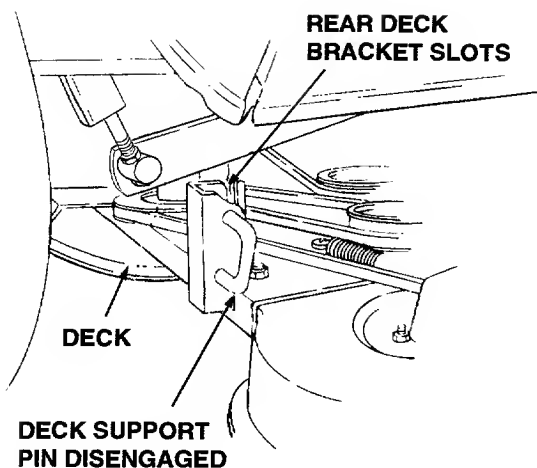

Figure 54
6. If not already done, pull the deck support pins outward, turn downward and release so both spring-loaded pins are held in the disengaged position against the outer surface of the deck brackets (Refer to Figure 54).